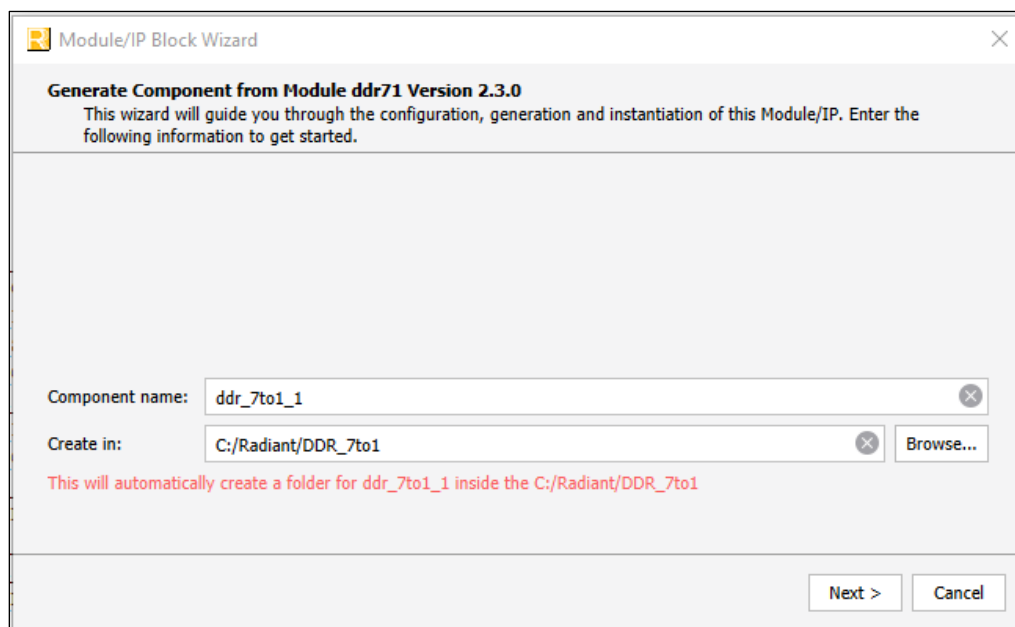
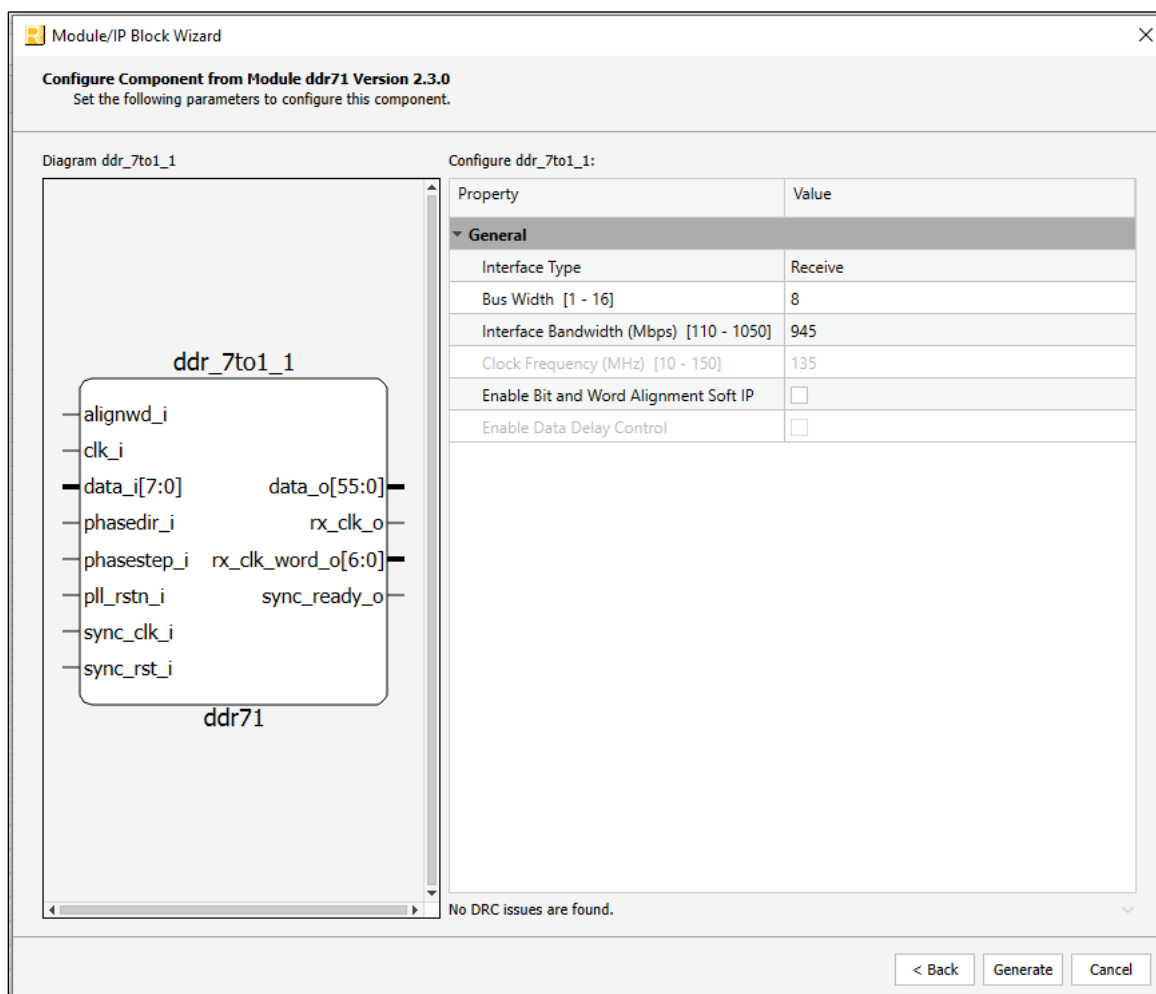
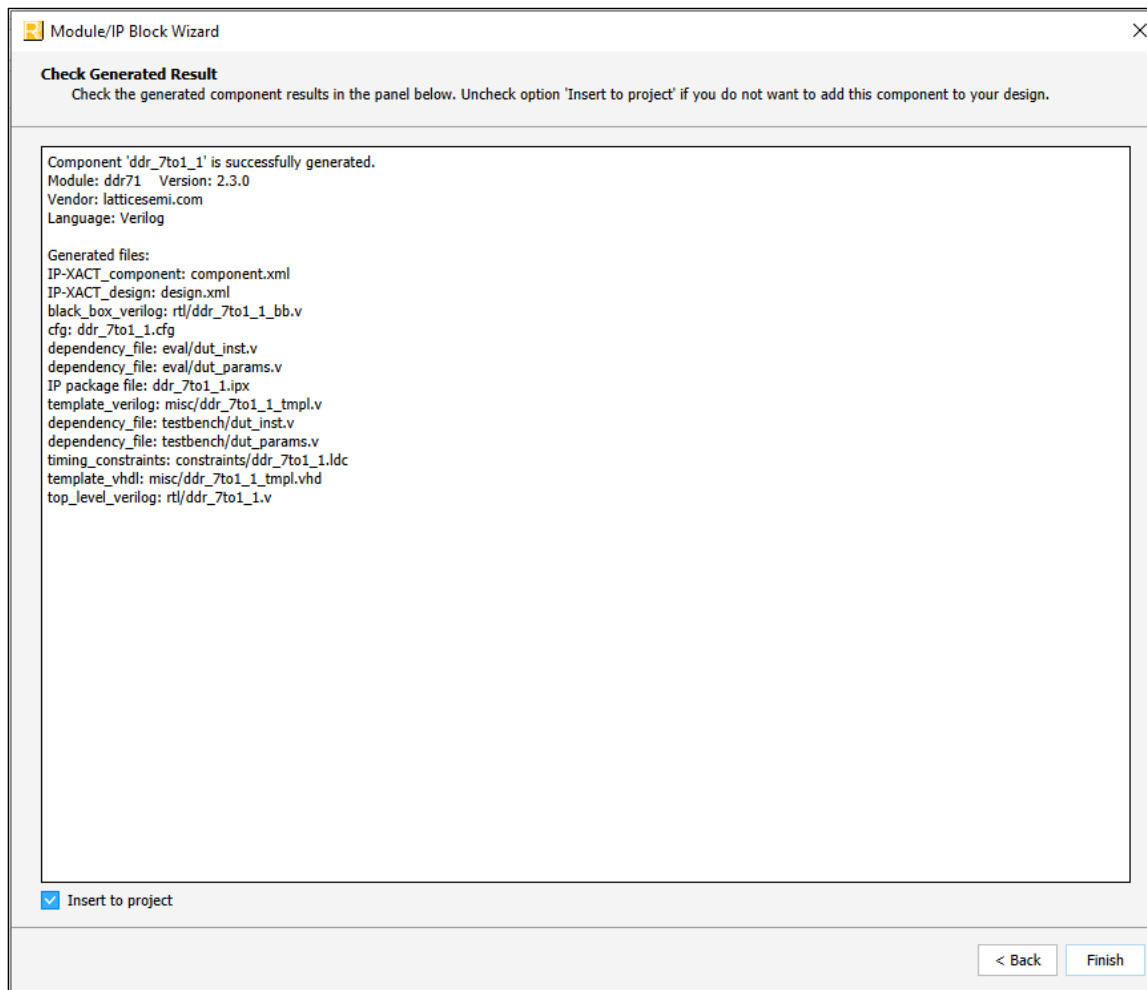
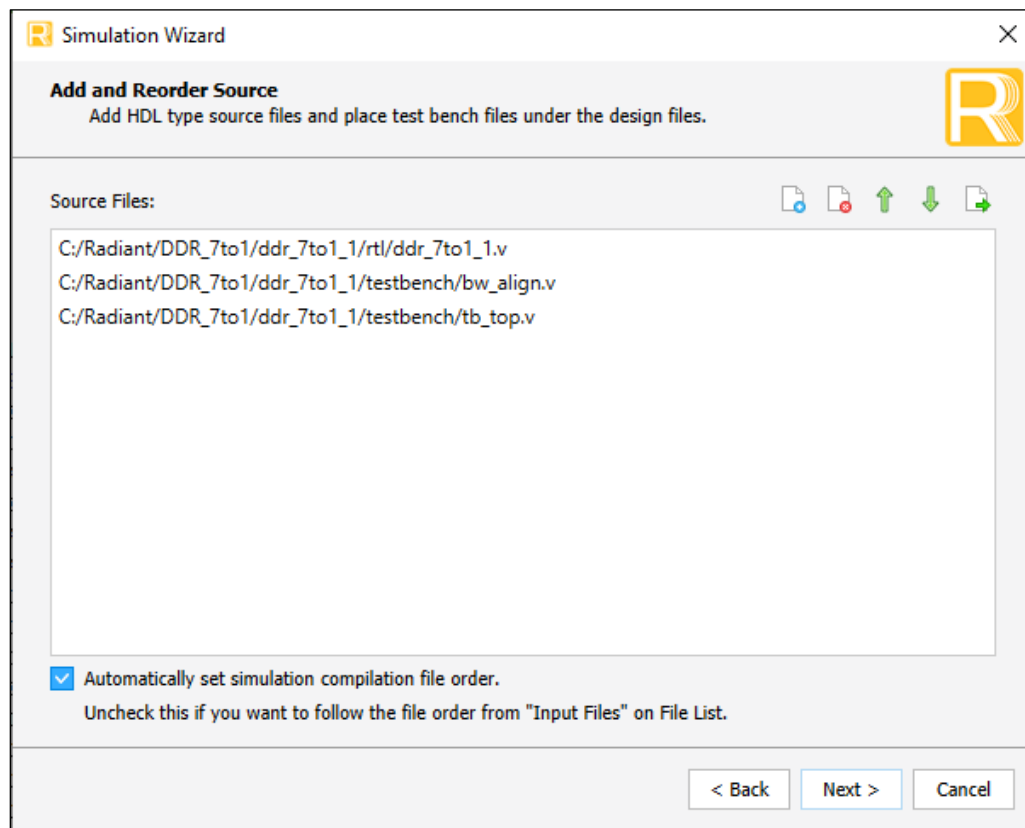

Figure 3.1. Module/IP Block Wizard
Figure 3.2. Configure Block of GDDR 7:1 I/O Module
Figure 3.3. Check Generated Result
Figure 3.5. Adding and Reordering Source
2. In the **IP Catalog** tab, double-click on **GDDR 7:1** under **Module, Architecture_Modules, I/O** category. The **Module/IP Block Wizard** opens as shown in Figure 3.1. Enter values in the **Component name** and the **Create in** fields and click **Next**.
3. In the module's dialog box of the **Module/IP Block Wizard** window, customize the selected GDDR 7:1 I/O module using the drop-down menu and check box. As see Figure 3.2 sample configuration. For configuration options, see the Attribute Summary section.
- Click **Generate**. The **Check Generated Result** dialog box opens, showing design block messages and results. See Figure 3.3 sample.
- Click the **Finish** button. All the generated files are located in the directory paths specified in the **Create in** and **Component name** fields shown in Figure 3.1.
- Click **Next** to open the **Add and Reorder Source** window as shown in Figure 3.5.
IP Generation, Simulation, and Validation	- Replaced Figure 3.1. Module/IP Block Wizard - Figure 3.5. Adding and Reordering Source. - Updated the Running Functional Simulation section.
IP Generation, Simulation, and Validation	- Updated Figure 3.1, Figure 3.2, and Figure 3.3 in Generating the IP section. - Added attribute eval/constraints.pdc and its description to Table 3.1. - Added Constraining the IP section.
IP Generation, Simulation, and Validation	Updated Figure 3.1. Module/IP Block Wizard, Figure 3.2. Configure Block of GDDR 7:1 I/O Module, and Figure 3.3. Check Generated Result.